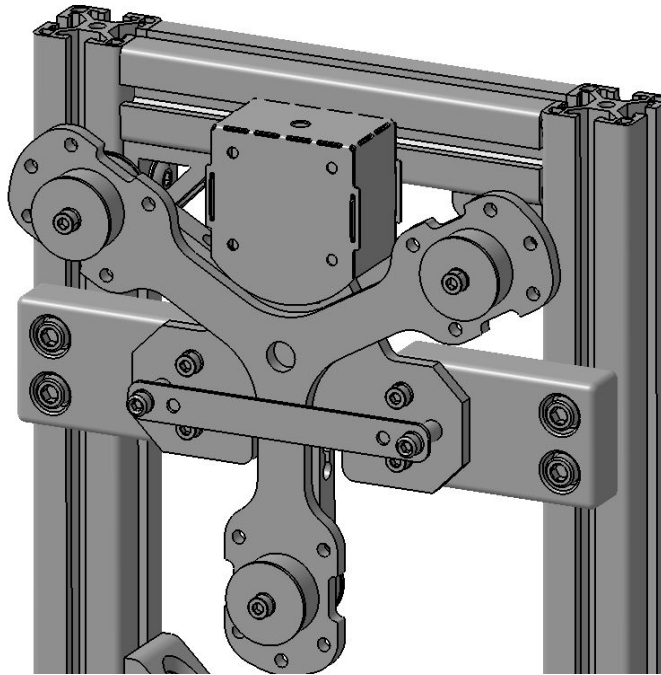

Fig. 4.32: Installation of the mechanical safety stop
- ❑ Use two M5 - 40 mm screws (#QACR) and two M5 split lock washers (#T9DQ) to attach the stop to the rectangular profile (#LZWT), as shown in Fig. 4.32.